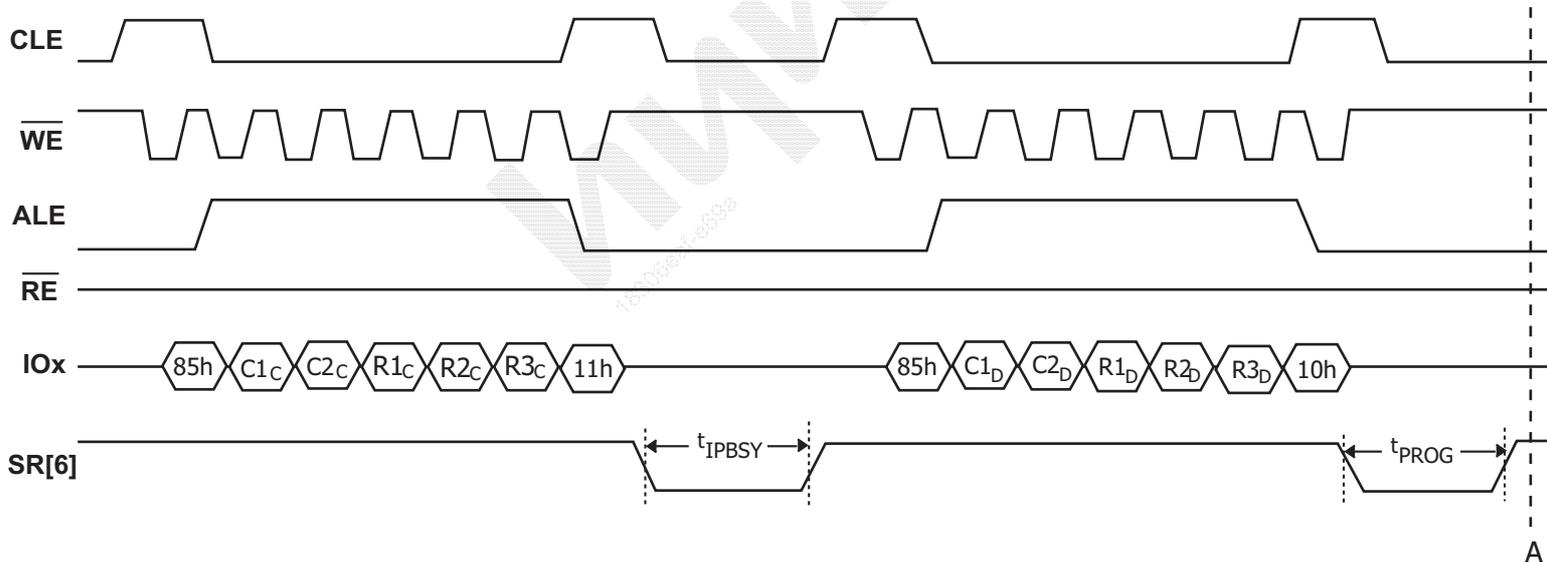

Figure 24: Multiple plane copy back program (ONFI 1.0 protocol)
Same restrictions on address of blocks on plane 0(A) and 1(B) and allowed commands as **Figure 24** apply